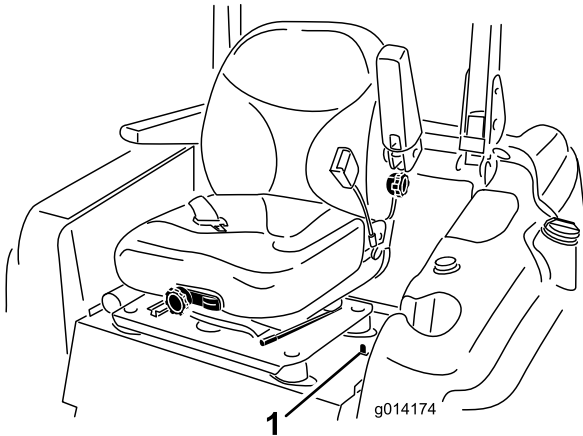

Figure 23
1. Move the seat latch, located on the left side of the seat, rearward to unlatch the seat and pull forward on the top of the seat (Figure 23).